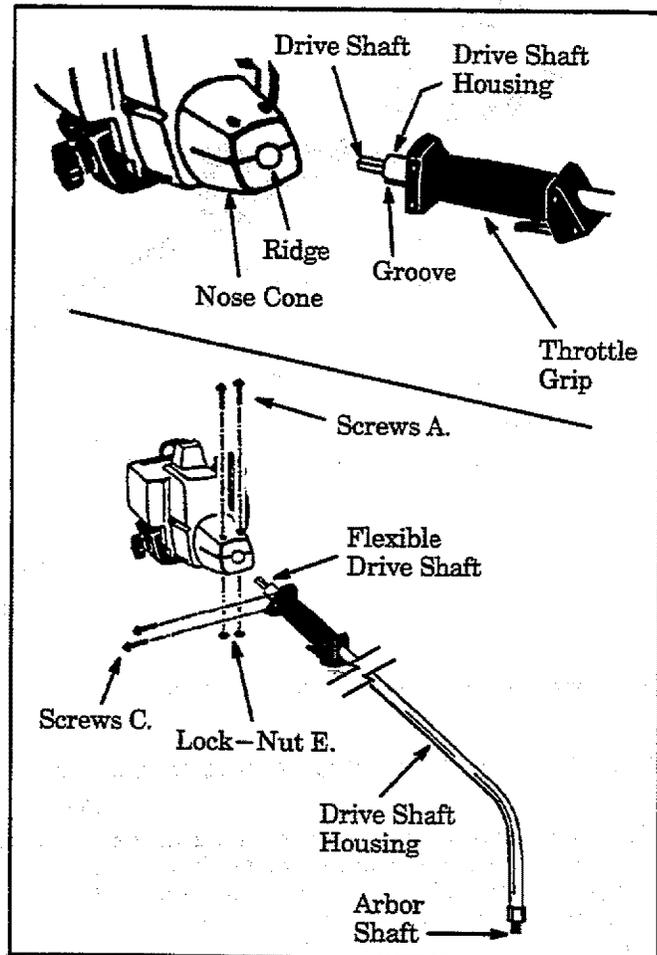

Figure 2
1. DRIVE SHAFT HOUSING (Figure 2)
- b. Insert the drive shaft housing through the throttle grip. Figure 2.
- c. Insert drive shaft into the nose cone. Figure 2.
- d. Align the bottom groove on the drive shaft housing with the ridge on the inner, lower wall of the nose cone opening. Figure 2.
- f. Insert the nose cone screws A. and lock nuts E.; tighten alternately with the hex wrench until secure. Figure 2.